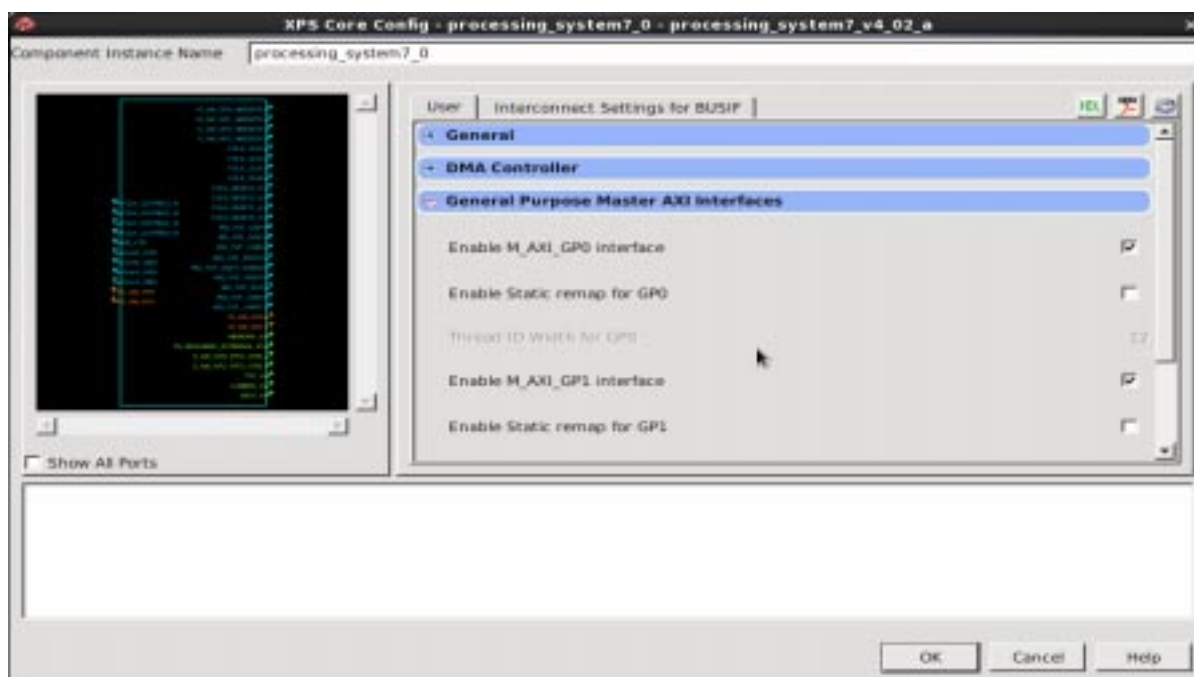

Figure 3: processing_system7_0 Configuration Window.
5.11. In the processing_system7_0 Configuration Window, select User Tab and expand **General Purpose Master AXI Interfaces** and select the **Enable M_AXI_GP1 interface** as shown in Figure 3.